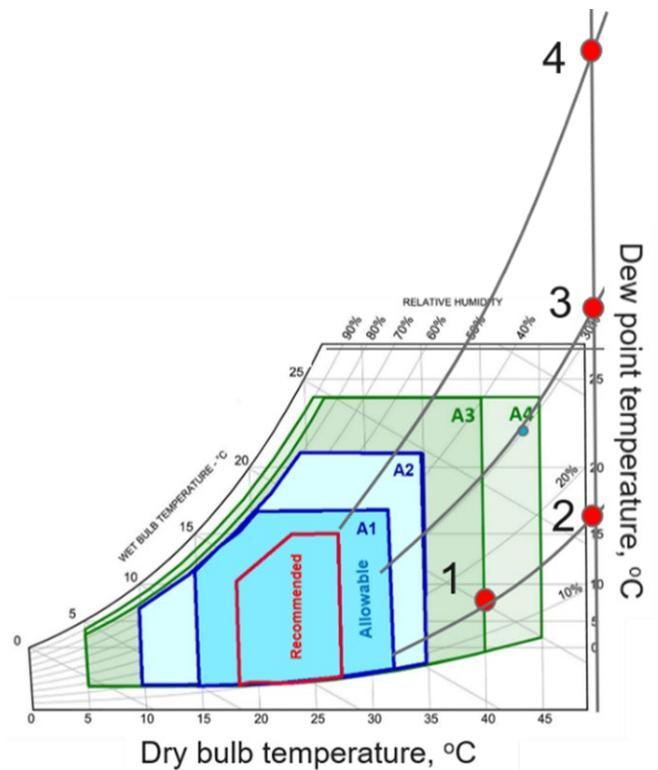

Figure 3: Psychrometric chart showing the four temperature-humidity test conditions.
Four tests were run with the chamber under the conditions shown on the psychrometric chart of Figure 3: (1) 15% relative humidity, 40°C; (2) 15% relative humidity, 50°C; (3) 31% relative humidity, 50°C; and (4) 75% relative humidity, 50°C. As mentioned earlier, the humidity was maintained using saturated salt solutions. The durations of various electrical and temperature conditions are listed in Table 1.